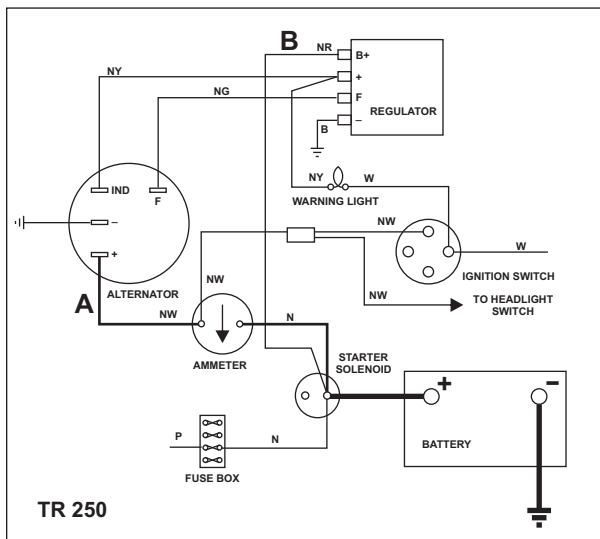

FIGURE 1
Circuit diagrams for these three configurations are depicted in **figures 1, 2, 3, and 4**, below. These diagrams do not depict all of the connections used by Triumph - only those for which documentation has been provided by official Triumph or Triumph approved publications, or for which I am personally acquainted. These cars have also appeared with other configurations at various times. I did not attempt to include every configuration, because of the uncertainty involved. I have no way of knowing if the different wiring schemes are original factory installations
Step 2). Measure the voltage on the brown, or the brown/white wire, identified as "A" in the diagrams in **figures 1, 2, 3, and 4**, at the alternator. The voltage here should be 14 - 14.6 volts for a moderate load, and 13 - 13.6 volts for a full load. If you have the correct voltage here, but not at the battery terminals, you have a high resistance in the wiring/connectors leading from the alternator to the battery, which will have to be fixed. If you don't have the correct voltage, proceed to step 3.